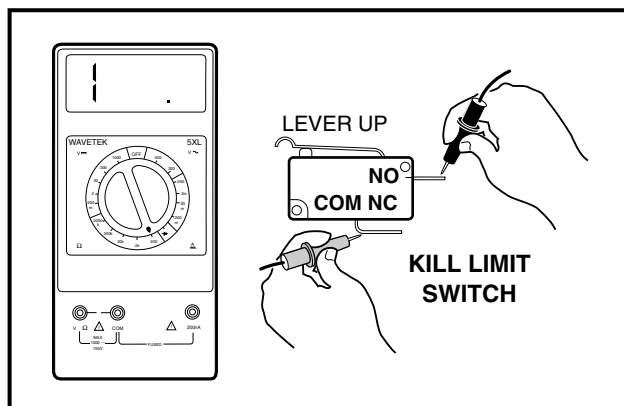

Figure 11b-53 Test Kill Limit Switch
- Using a multimeter, set to 200 Ω (ohms). Place the red (+) probe on the black wire terminal of the key switch and the black (-) probe on the white/black wire terminal. With the key switch OFF, the reading should be continuity (**Figure 11b-55, Page 11b-42**). With the key switch turned ON, the reading should be no continuity (**Figure 11b-54, Page 11b-42**). If either reading is incorrect, replace the key switch.